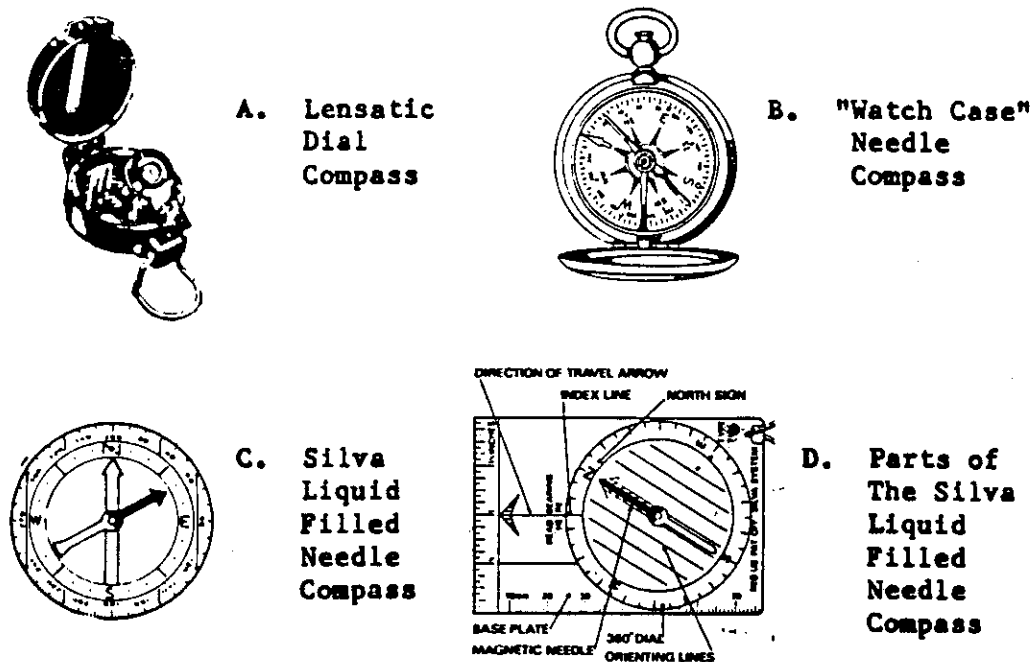

Figure 278
- d. The Mariner's Compass and related magnetic land compasses depend upon the earth's magnetism and a magnetized needle or dial. For the most part, land compasses are of the needle or dial variety. Figure 278 shows three common types of conventional compasses: The Lensatic Dial Compass, the "Watch Case" needle type compass and the Silva liquid filled needle compass.
A great number and variety of compasses are made by the Silva Company. These Silva-Systems Compasses come in a large selection of styles, shapes and designs with a compass for every purpose. Perhaps the most popular compasses are the liquid filled needle compasses. Although there are induction dampened compasses and air-filled compasses, the liquid filled compasses are now almost universally used because it slows down the jiggling of the needle and brings it to rest more quickly, and at the same time, the compass is not too costly. It makes a good orienteering compass. Figure 278-D shows the parts of the Silva liquid filled needle compass.